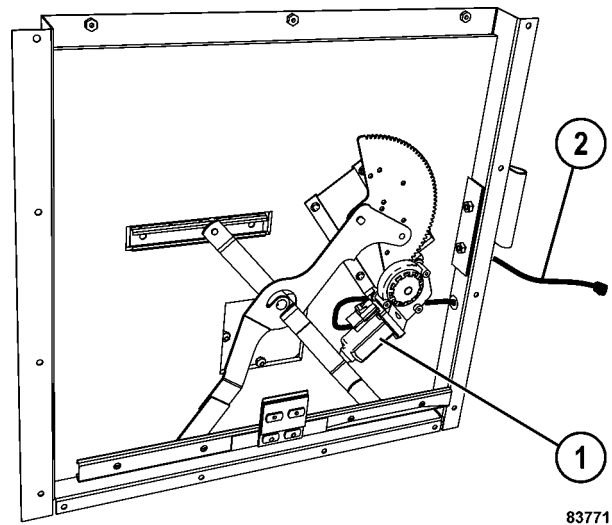

FIGURE 2-16. WINDOW REGULATOR
3. Disconnect regulator harness (2, Figure 2-16) at window regulator motor (1).
7. Connect regulator harness (2, Figure 2-16) to window regulator motor (1).